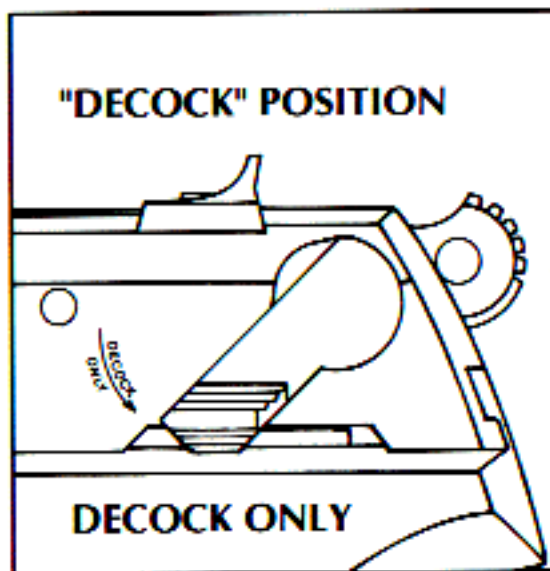
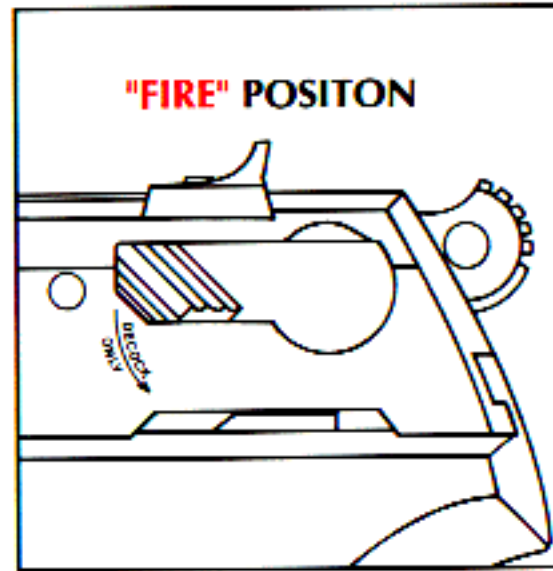

FIGURE 1
FIGURE 2
To decock the pistol, **point the pistol in a safe direction.** Depress the decocking lever until the hammer drops. The decocking lever first moves the firing pin into the slide far enough so that the rear end of the firing pin cannot be struck by the hammer. Only then will continued depression of the decocking lever safely drop the hammer to an uncocked position (see Figure 1). To return the pistol to firing condition, simply release the decocking lever (see Figure 2). It will spring upward to its original position. The pistol is then ready to fire by a "double-action" pull of the trigger. The hammer can also be manually cocked immediately before shooting a "single-action" firing. The trigger pull is both shorter and relatively lighter in the "single-action" mode, which is preferred for more accurate shooting.
1. The muzzle of the pistol must be pointing in a safe direction at all times, and fingers should be outside of the trigger guard. Decock the pistol by depressing the decocking lever until the hammer drops (See Figure 1, p. 6).